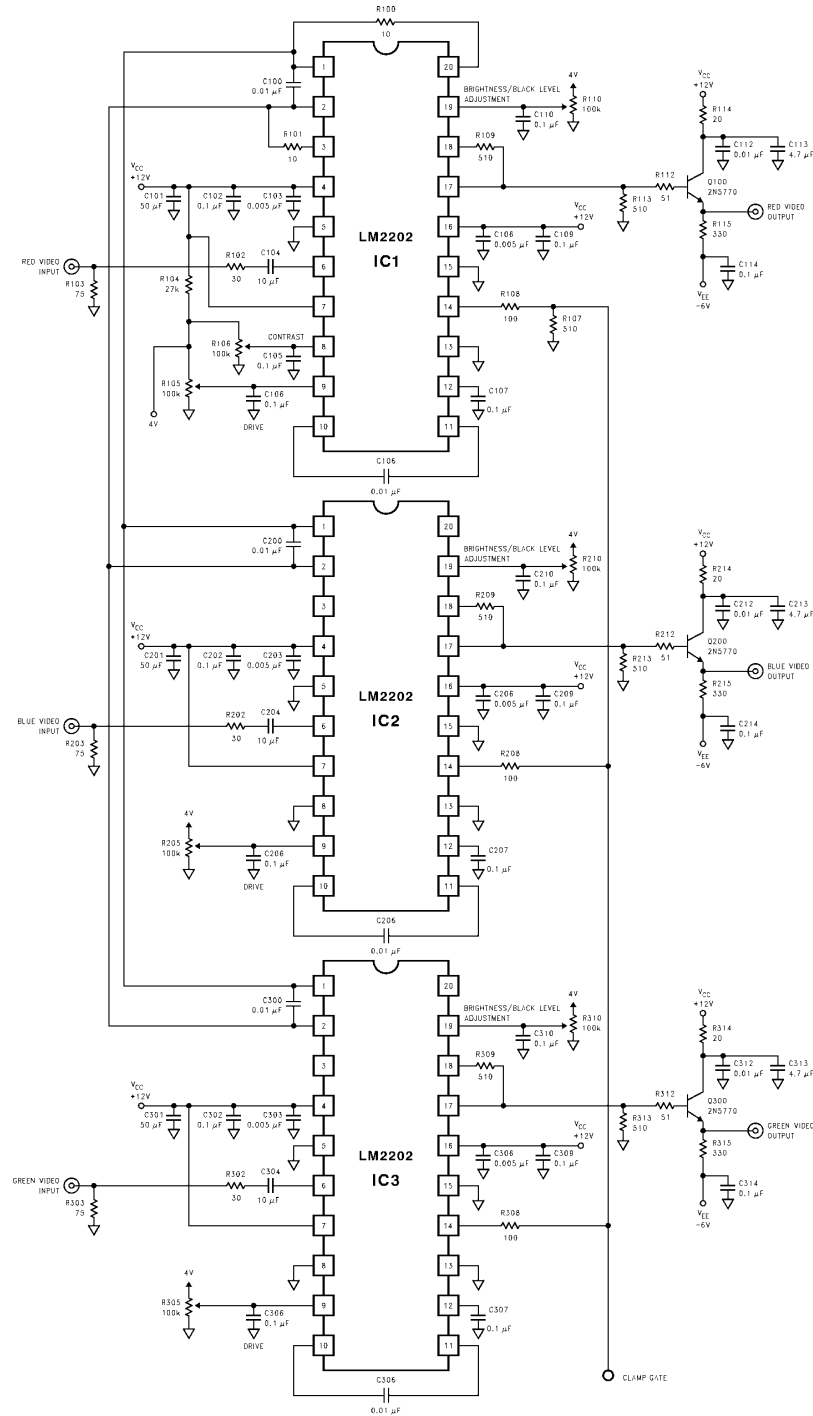

FIGURE 10. Typical RGB Application with Contrast, Drive and Black Level (Cutoff) Control
*Figure 10* shows an RGB video preamplifier circuit using three LM2202s. Note that pins 1 and 2 of IC1 are connected to pins 1 and 2 of IC2 and IC3 respectively. This allows IC1 to provide a master contrast control and optimum contrast tracking. Adjusting the contrast voltage at pin 8 of IC1 will vary the gain of all three video channels. Drive control input (pin 9) of each LM2202 allows individual gain adjustment for achieving white balance.